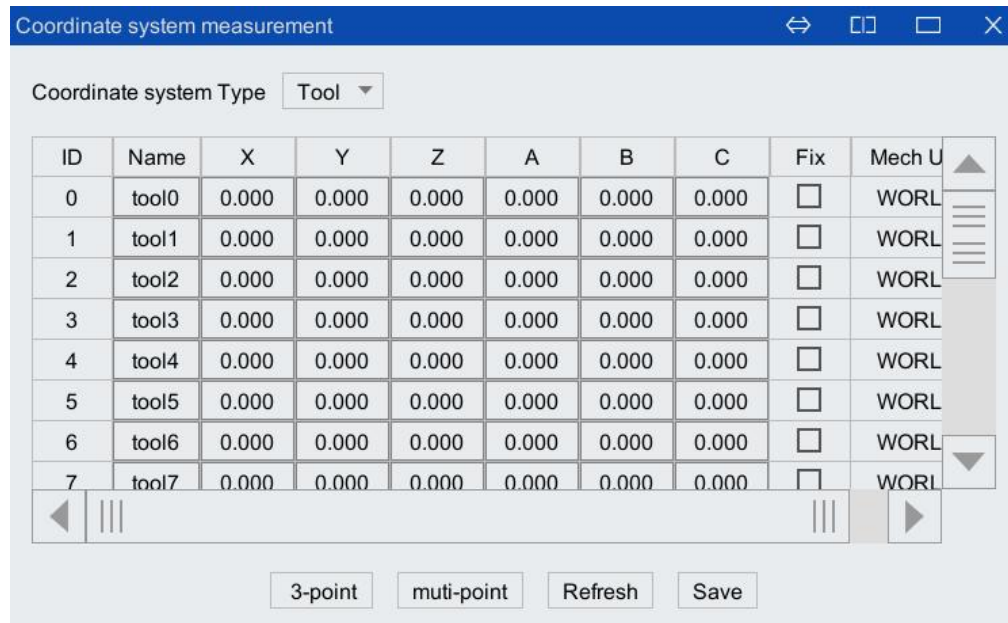
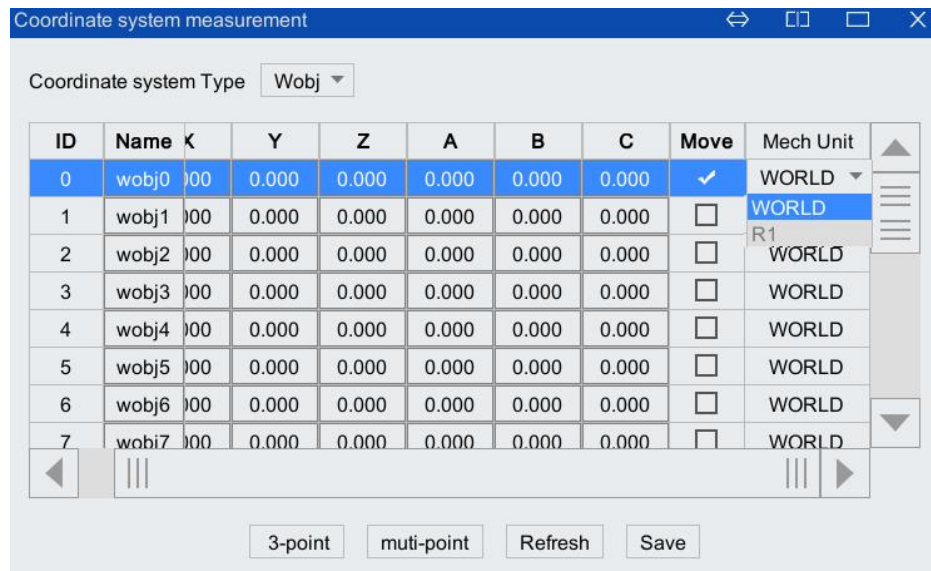

Figure 5-59 Interface of setting tool coordinate system by input method
Figure 5-69 "Mechanical Unit" list
You can set the tool coordinate system by inputting, as shown in Figure 5-59. The table shows the position of the origin of the tool coordinate system and the posture of the coordinate system.
- Step1. Select "Tool Coordinate System" in "Coordinate System Type", as shown in Figure 5-59.
- Step1. Select "Workobject Coordinate System" in "Coordinate System Type", as shown in Figure 5-59.
Step1. Select "Tool Coordinate System" for "Coordinate System Type" in Figure 5-59. Assuming that the name of the "Tool Coordinate System" to be calibrated is tool0, select the row where tool0 is located, and click the <multi-point method> button below to enter Figure 5 63 shows the "multipoint method" calibration interface.
Step5. Select "Workobject Coordinate System" in [Coordinate System Type] in Figure 5-59. Assuming that the name of the "Workobject Coordinate System" to be calibrated is wobj0, click the mechanical unit box corresponding to the row of wobj0, and a drop-down list will pop up, as shown in Figure 5-69 , Choose either WORLD or R1. When WORLD is selected, it means that the workobject coordinate system is calibrated relative to the world coordinate system. When R1 is selected, it means that the workobject coordinate system is calibrated relative to the robot base coordinate system.